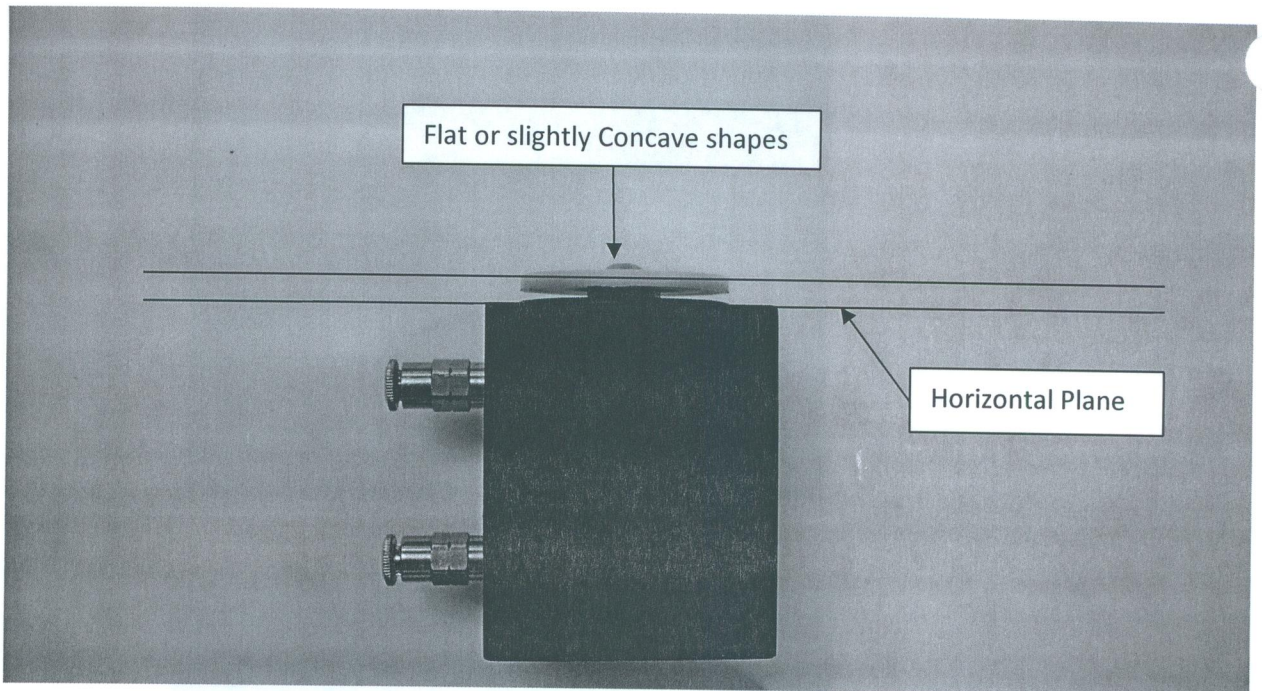

Fig 16
- Tighten the valve seal retaining screw until the seal deforms the shape. Refer to Figure 16.